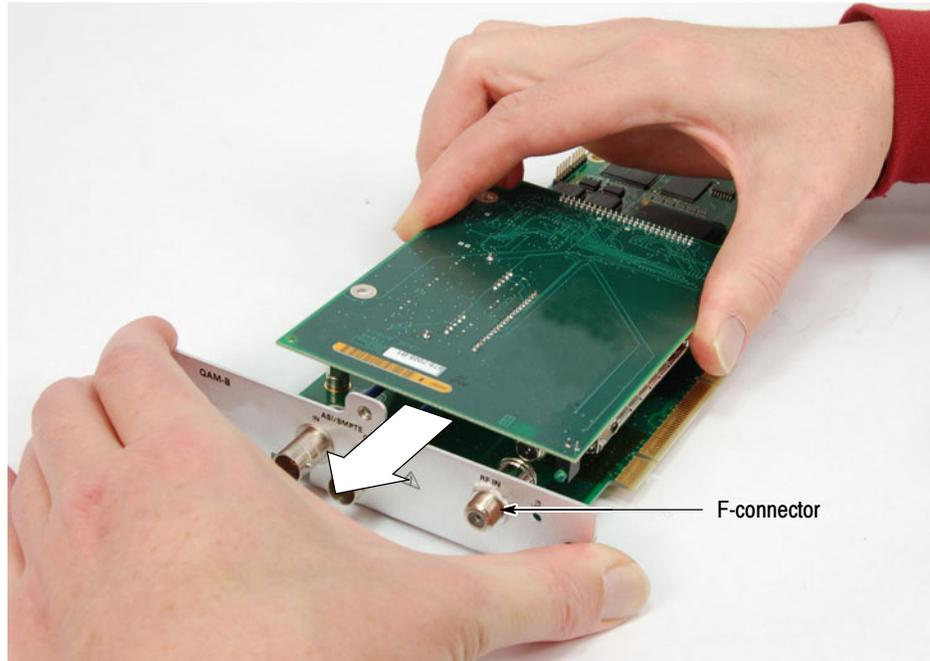

Figure 7: Engaging the F-connector with the top circuit board
10. Grasp the rear panel on the interface card, and then slide the top circuit board towards the rear panel until the F-connector is engaged with the circuit board (see Figure 7).